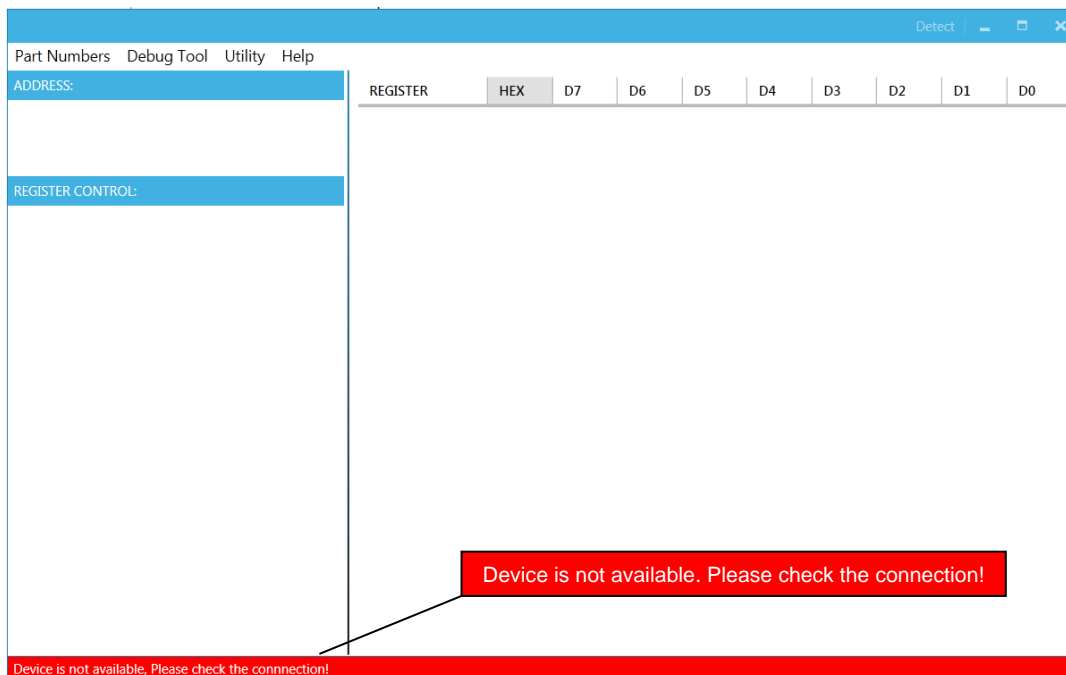

Figure 9: Warning Indicates Unsuccessful Connection – USB/I2C Communication Interface Device is Not Connected
- 2) “Device is not available. Please check the Connection!” This means that the USB I2C communication interface device is not connected (see Figure 9).